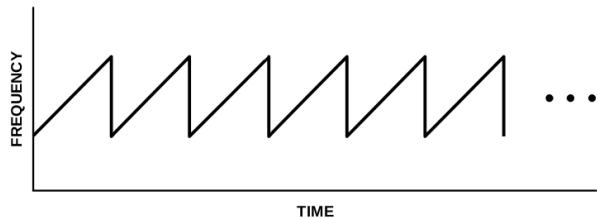
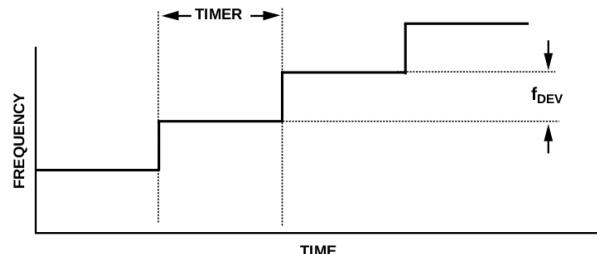

Figure 2.9: Sawtooth ramp.
Figure 2.10: Waveform timing.
The ADF4158 is capable of producing several different waveforms. The one used in this design is a sawtooth ramp in frequency as a function of time, shown in Figure 2.9. There are 3 different parameters that determine the shape of a ramp: (1) frequency deviation (the amount the frequency increases at each time step), (2) timeout interval (the amount of time between each time step) and (3) the number of time steps. This is shown diagrammatically in Figure 2.10. The equations governing these parameters are given in Equation 2.10. The number of steps is set directly in register 6. In our configuration $f_{DEV} = 300\text{kHz}$ and Timer = $0.5\mu\text{s}$, which given that the number of steps is equal to 2000 and the starting frequency is 5.3GHz, the sawtooth will ramp from 5.3GHz to 5.9GHz in 1ms. We also use a delay between bursts of 2ms. Equation 2.11 is used to derive this.